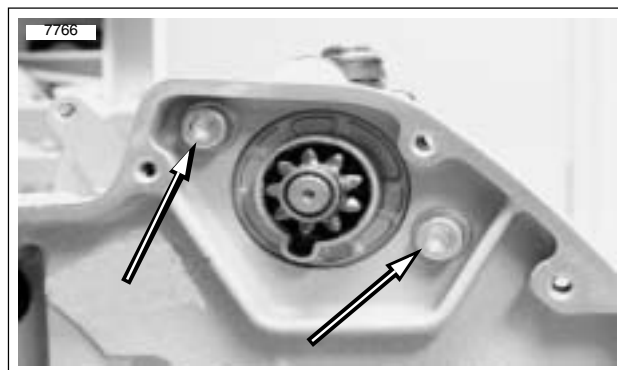

Figure 5-28. Starter Mounting Bolts and Washers (Primary Side)
3. See Figure 5-28. Install both starter mounting bolts and washers. Tighten to 13-20 ft-lbs (18-27 Nm).